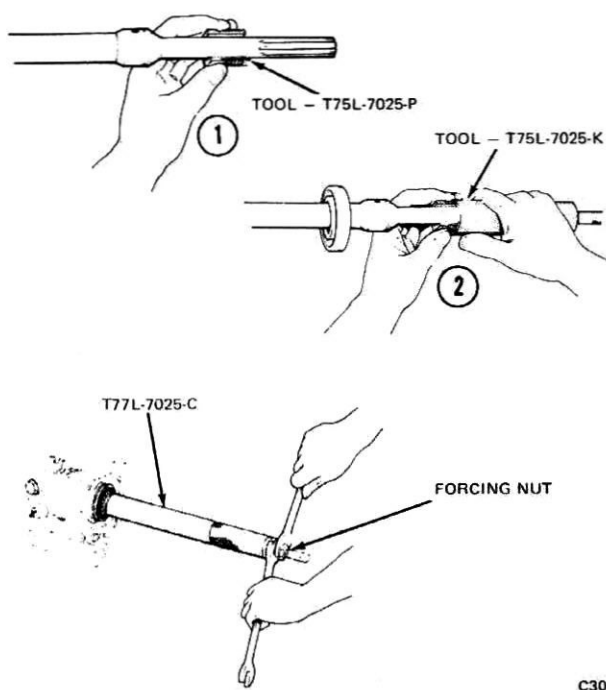

FIG. 15 Installing Output Shaft Bearing—Typical Transmission
35. Remove the dummy bearing from the output shaft. Assemble the special service tools to the output shaft as shown in Fig. 15. **Before pressing the bearing onto the output shaft, be sure that the output shaft bearing is aligned with the transmission case bore and that the countershaft is not interfering with the output shaft assembly.**